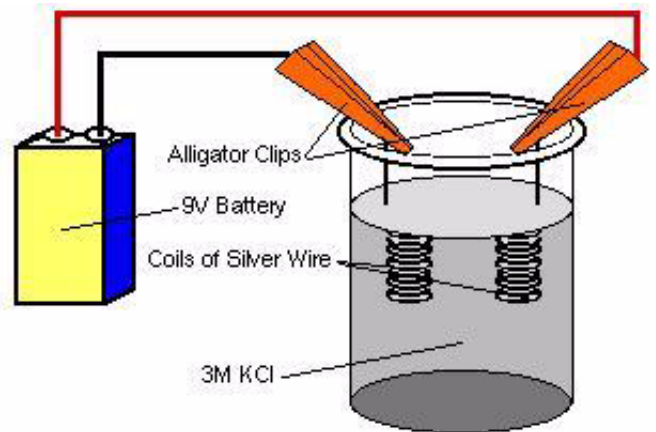

Figure NB-7-10: Setup used to chloride silver wire.
- 7 Position each alligator clip in the wax or clay on opposite sides of the rim of the beaker, so that the two wire coils are in solution (Figure NB-7-10 on page NB-7-10).